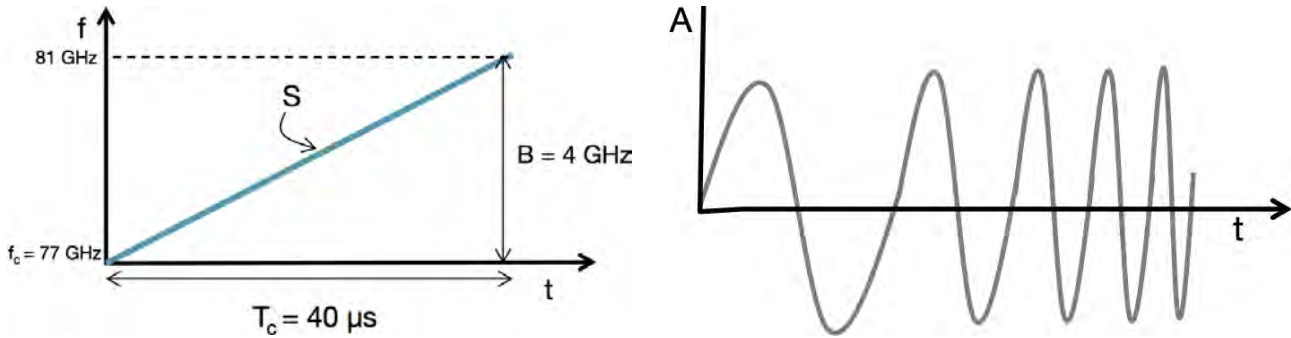
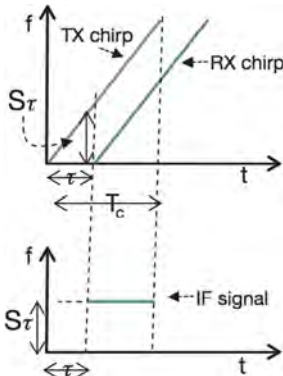

Figure 2: Chirp signal with frequency (left) and with amplitude (right) as a function of time (Photo: TI)
Figure 4: IF frequency is constant (Photo: TI)
The fundamental concept in radar systems is the transmission of an electromagnetic signal that objects reflect in its path. In the signal used in FMCW radars, the frequency increases linearly with time. This type of signal is called a chirp. Figure 2 shows a representation of the chirp signal with magnitude (amplitude) as a function of time on the right. On the left, Figure 2 displays the same chirp signal with frequency as a function of time. The chirp is characterized by a start frequency (f_c), bandwidth (B), and duration (T_c). An FMCW radar system transmits a chirp signal and captures the signals reflected by objects in its path. Figure 3 represents a simplified block diagram of the main RF components of the FMCW radar; Figure 4 shows IF frequency.
The frequency mixer is an electronic component that combines two signals to create a new signal with a new frequency. The operation of the frequency mixer can also be understood graphically by looking at TX and RX chirp frequency representation as a function of time (Figure 4). The upper diagram shows TX and RX chirps as a function of time for a single object detected. Notice that the RX chirp is a time-delay version of the TX chirp. To obtain the frequency representation as a function of time of the IF signal at the output of the frequency mixer, subtract the two lines presented in the upper section of the figure. The distance between the two lines is fixed, which means that the IF signal consists of a tone with a constant frequency. The IF signal is only valid in the time interval, in which both the TX chirp and the RX chirp overlap. The mixer output signal as a magnitude function of time is a sine wave, since it has a constant frequency.